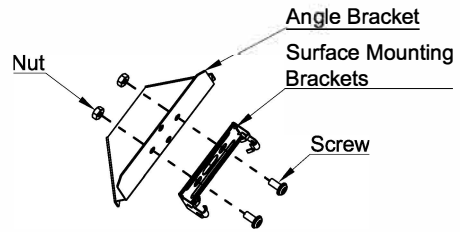

Fig 6
1. Use Screws and Nuts to secure the Angle Bracket to Surface Mounting Brackets as shown in Fig. 6.